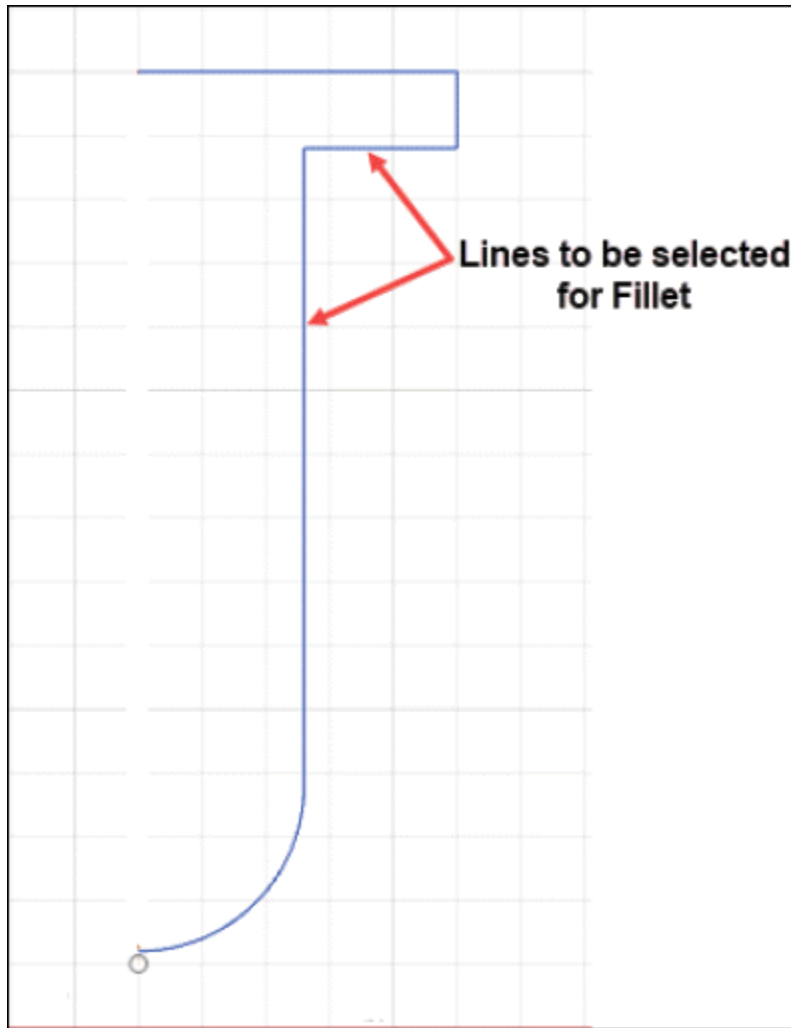

Figure-114. Line selection for fillet
- Select the lines as shown in Figure-114.